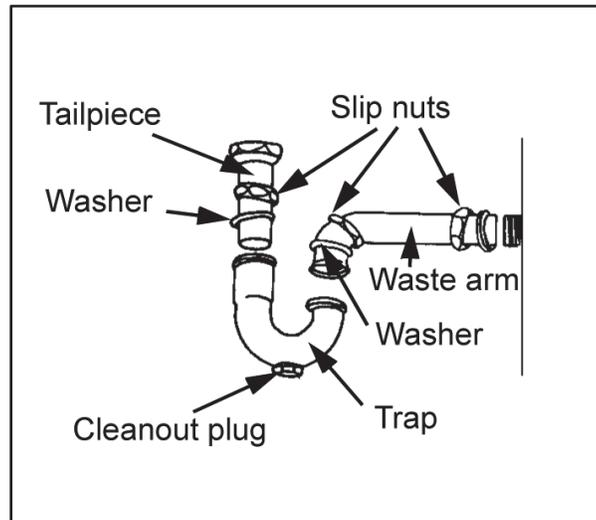

Figure 4-14. P-trap connection
Step 4. Connect the P-trap between the rough-in waste outlet and the tailpiece (figure 4-14). All connections should be made with washers and slip nuts to form leakproof joints.